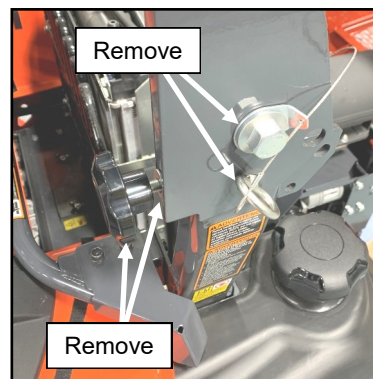

Fig. 3.1 (Remove hand screws and ROPS Bolt)
- 3.1 See fig. 3.1. Remove the left and right hand tension screws and clips on the ROPS and discard.
- 3.2 Remove the ROPS pin and bolt from the left side and discard. See fig. 3.1. Leave the right side installed at this time.